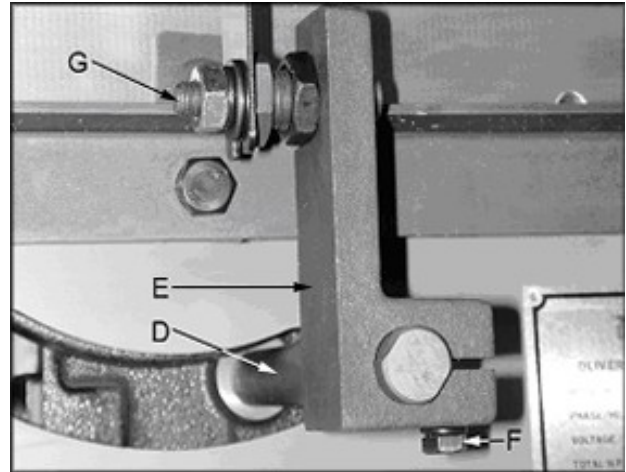

Figure 17
3. Insert the blade guard shaft (D, Figure 17) into rear trunion through opening at rear of saw.
5. Place bracket assembly (E, Figure 17) on to the shaft and thread a hex head bolt and a lock washer (F, Figure 17) into the bracket.
6. Thread the guard support assembly (G, Figure 17) into the bracket.